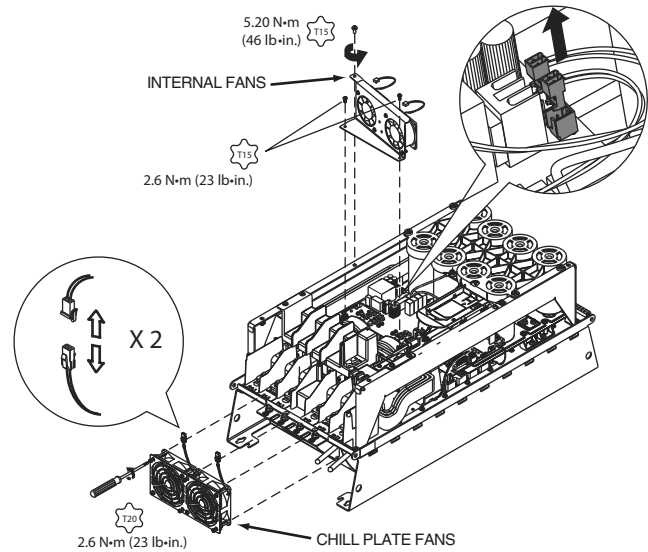

Fig. 25 — Chill Plate and Internal Fans, Removal and Replacement, Frame 7
4. Remove and replace the Heat Sink and Internal and fans. See Fig. 25.